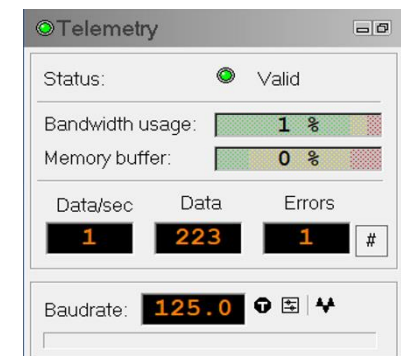

Figure 4-1.3 Telemetry Panel
8. During logging observe the controls in the **Telemetry** panel (Figure 4-1.3):